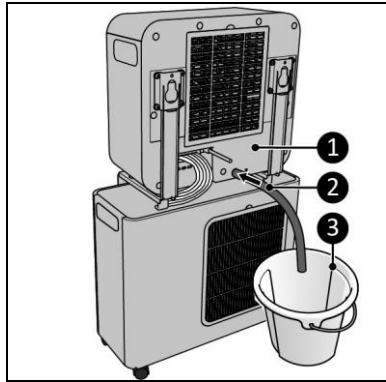

Figure 14
7. Connect the condensed water drainage hose (Figure 14, pos. 2) to the back of the indoor unit (Figure 14, pos. 1).
8. Guide the condensed water drainage hose (Figure 14, pos. 2) into a bucket (Figure 14, pos. 3).
2. The condensed water drainage hose (Figure 14, pos. 2) must be connected to the back of the indoor unit and be guided into a bucket (Figure 14, pos. 3).